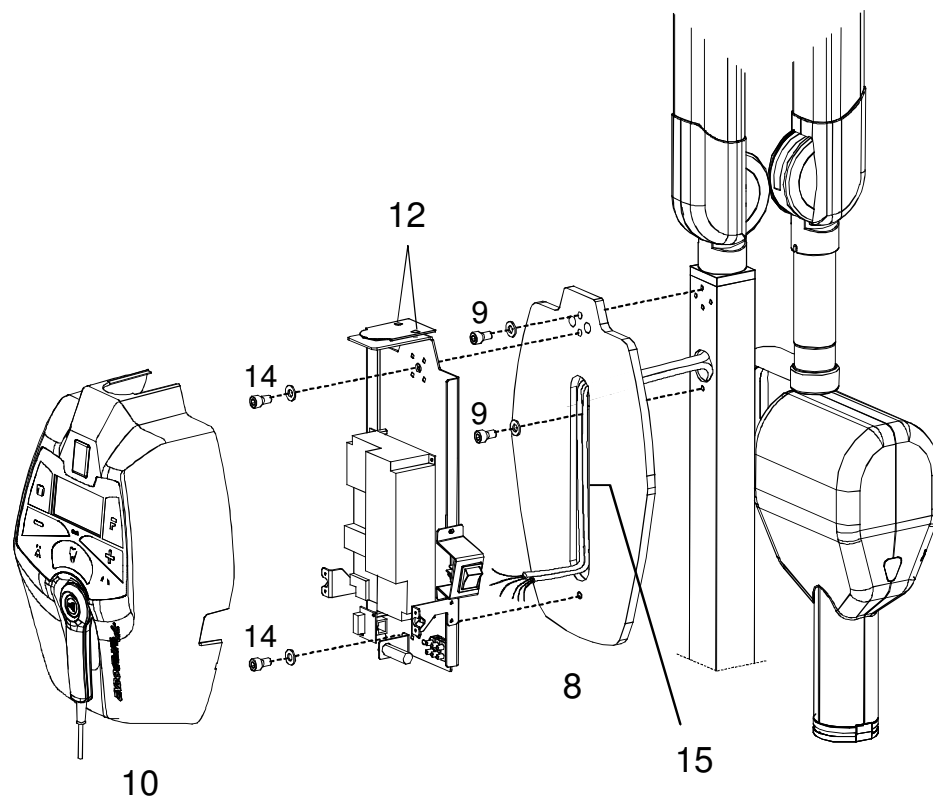

Figure 6-3
5. Assemble the timer support plate (**8** - Figure 6-3) to the stand column, fixing it with the two screws (**9** - Figure 6-3) present on the stand column.
6. Remove the plastic timer cover (**10** - Figure 6-3) by loosening the two sealing screws (**12** - Figure 6-3) placed on the top.
7. Fix the timer onto the support plate with the two screws (**14** - Figure 6-3) taking care to thread the supply cable and the cables coming from the scissors arm inside the hollow one (**15** - Figure 6-3). Check that the upper level is level using a bubble level.